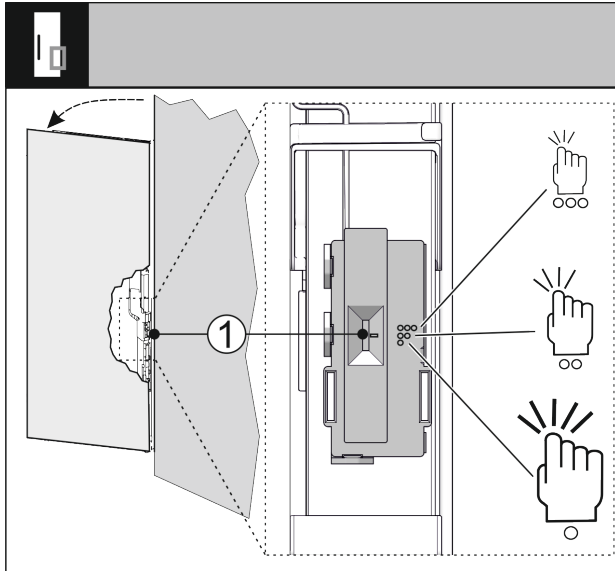

Fig. 71
You can adjust the sensitivity of the knocking sensor with a switch Fig. 71 (1). The switch is on the hinge side on the lower third of the door.
► Slide the switch Fig. 71 (1) to the desired switch position.